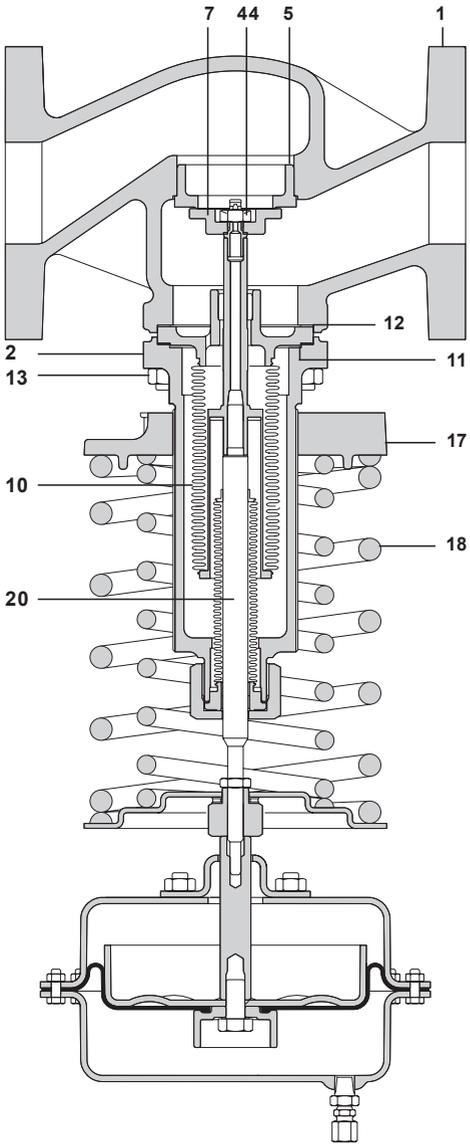

Fig. 11 DN65 to DN100 shown
4.4.4 To renew balancing bellows assembly (Figure 11) - For valve sizes DN25 to DN50:
- Remove the bonnet nuts (13) and withdraw the bonnet assembly from the valve body (1).
- Remove the valve head self-locking nut (44), valve head (5) and the head seal (7).
- Unscrew and remove the balancing bellows assembly (10) and gasket (11) from the bonnet (2).
- Refit the balancing bellows assembly (10) into the bonnet using a new sealing gasket (11) and tighten to the recommended torque given in Section 4.2. Inspect the valve head and seat for damage and replace if necessary.
- Using a new head seal (7) refit the valve head (5) and self-locking nut (44), tightening to eliminate any free play of the head.
- Refit the bonnet assembly (2) into the valve body (1) using a new bonnet gasket (12).
- Refit the bonnet nuts (13) and tighten to the recommended torque given in Section 4.2. The sealing bellows, actuator assembly and all remaining component should now be refitted and the new valve brought back into service, all as described in Section 4.4.3.